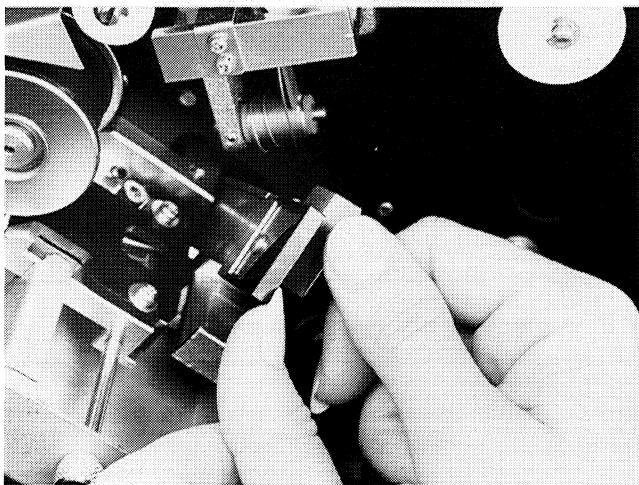

Figure 8-2
2. Pull the spring steel tab on the blade assembly to the right to clear the capture button on the black safety handle (Figure 8-2).